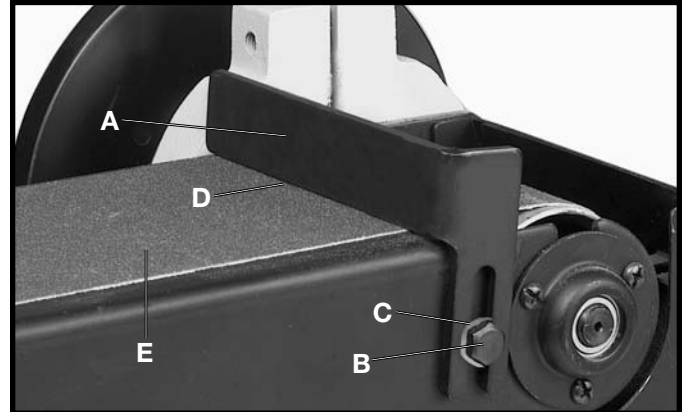

Fig. 14
Assemble backstop (A) Fig. 14, to the sanding arm using the 1/4-20x1/2" hex head screw (B) and 5/16" flat washer (C).
**⚠ WARNING: TO AVOID TRAPPING THE WORK OR FINGERS BETWEEN THE BACKSTOP AND SANDING BELT, THE EDGE (D) OF THE BACKSTOP SHOULD BE POSITIONED A MAXIMUM OF 1/16 INCH AWAY FROM SANDING BELT (E).**